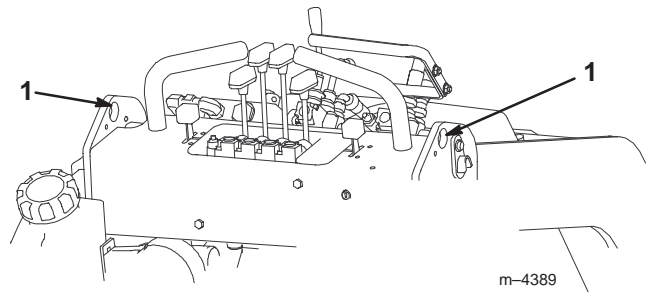

Figure 12
2. Lift the traction unit off the ground, using the two lift points (Fig. 12) and move onto a trailer.